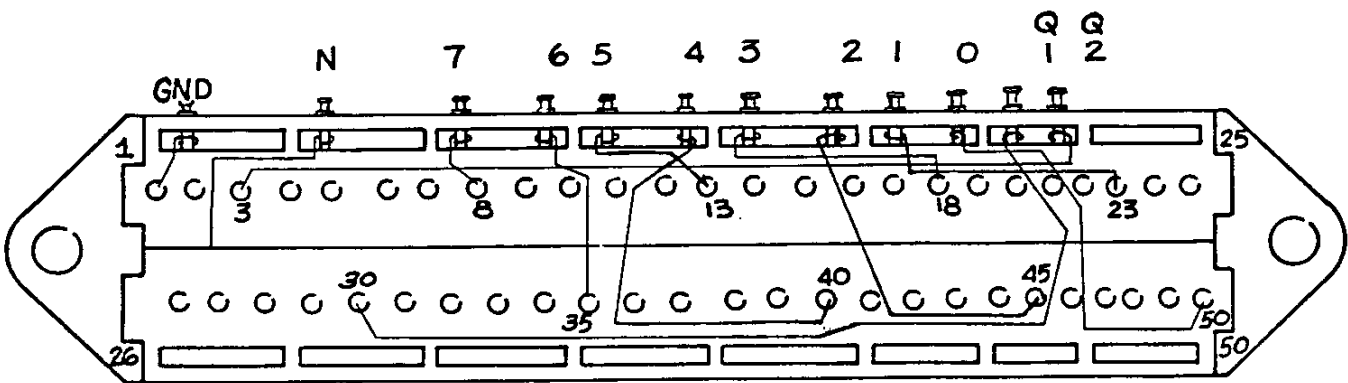

Figure 6.24 Alignment Fixture 'B' Wiring Diagram
3. Install terminals with crazy glue, as shown in Figure 6.23 and wire as you go, as shown in Figure 6.24.